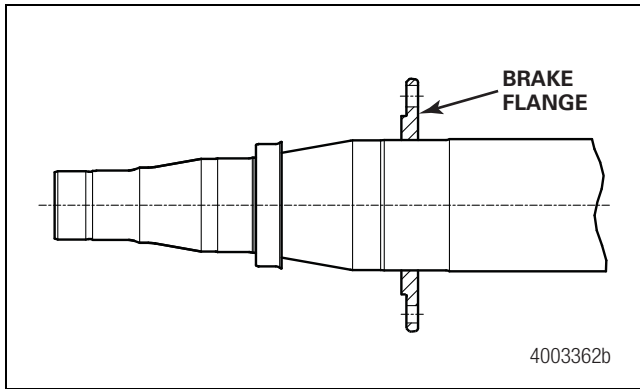

Figure 12.21
- On some axle models, unit-mounted brakes, standard on drive axles, are fastened to the trailer axle by bolting the spider to a brake flange. Figure 12.21.